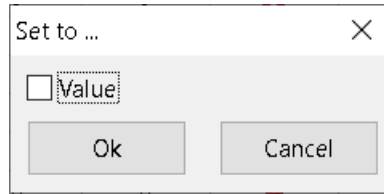

Figure 18.20: Provide the range values
- *TX, REM, BOR, Skip Roll*: these columns contains binary flags, when the “Set to ...” command is invoked. The windows shown in Figure 18.20 asks the user the new status that the cells need to have. It is required to check or unchecked the parameter displayed and to press the “OK” button to apply the selection to all the cells highlighted.